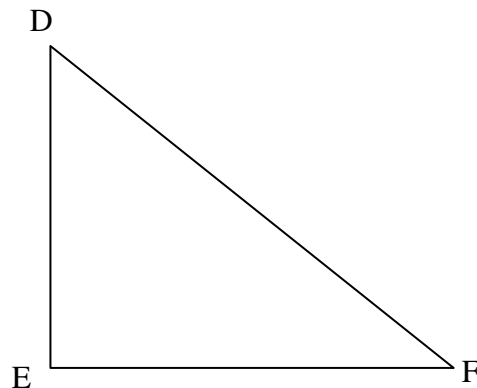

Figure 2-4: Naming angles in a triangle
1. Referring to Figure 2-4, name all the vertices and sides.
2. What are all of the acceptable ways to name the interior angle, from Figure 2-4, which is formed between sides DE and DF? You should be able to list three different names for this angle.
3. What are all of the acceptable ways to name the interior angle, from Figure 2-4, which is formed between sides EF and DF? You should be able to list three different names for this angle.